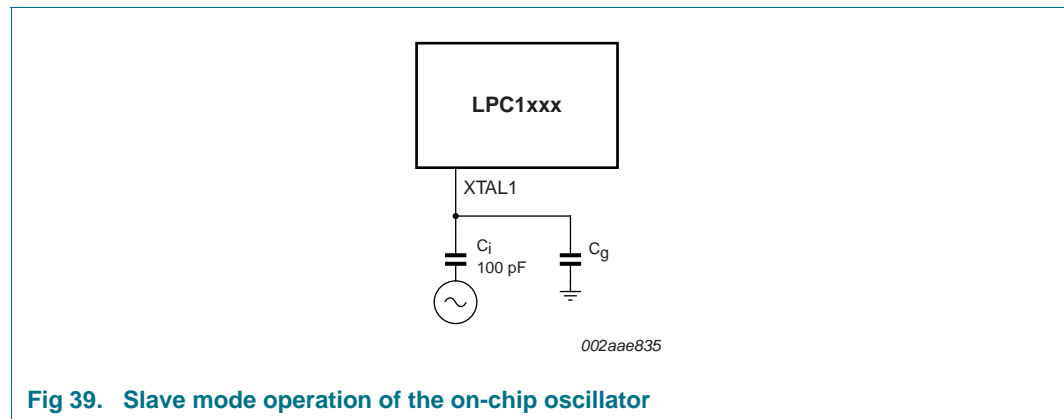

Fig 39. Slave mode operation of the on-chip oscillator
- In slave mode, couple the input clock signal with a capacitor of 100 pF (C_C in Figure 39), with an amplitude of at least 200 mV (RMS). The XTAL2 pin in this configuration can be left unconnected.